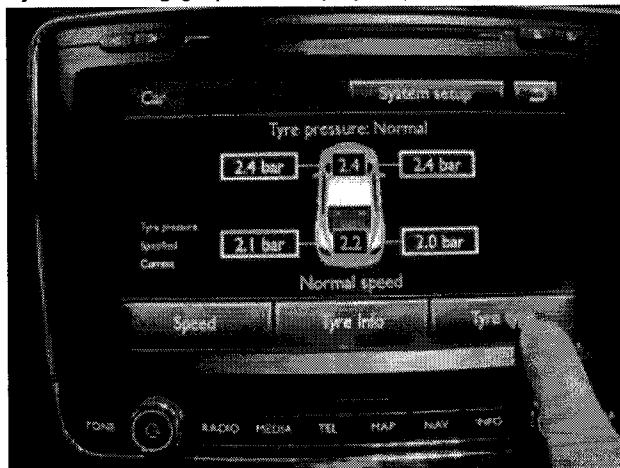

Figure 24
27. Once the screen is displaying the tyre pressure data the *Tyre type* button can be selected (see Figure 24)